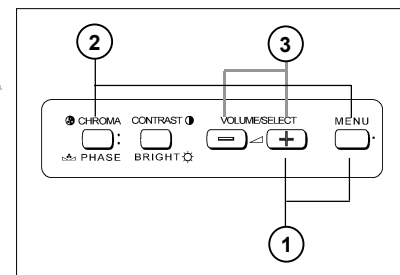

Fig.1
- ① Press **MENU** key and **VOLUME/SELECT + (UP)** key simultaneously (Fig. 1).
- ② While displaying the letter "S", press **MENU** key and **CHROMA/PHASE** key simultaneously (Fig.1).